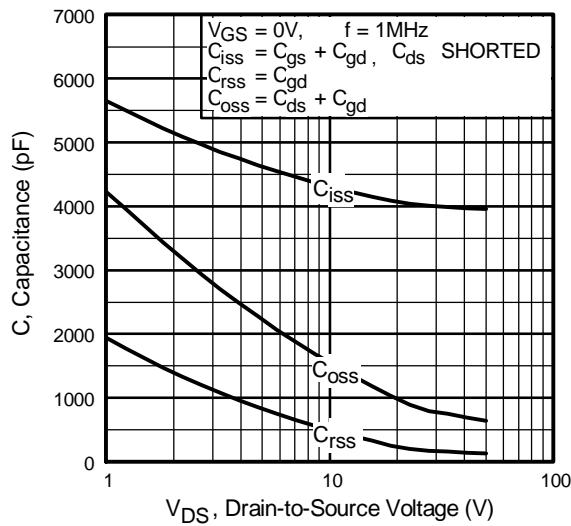

Fig 5. Typical Capacitance Vs.
| C_{rss} | Reverse Transfer Capacitance | — | 180 | — | | $f = 1.0\text{MHz}, \text{See Fig. 5}$ ⑦ |